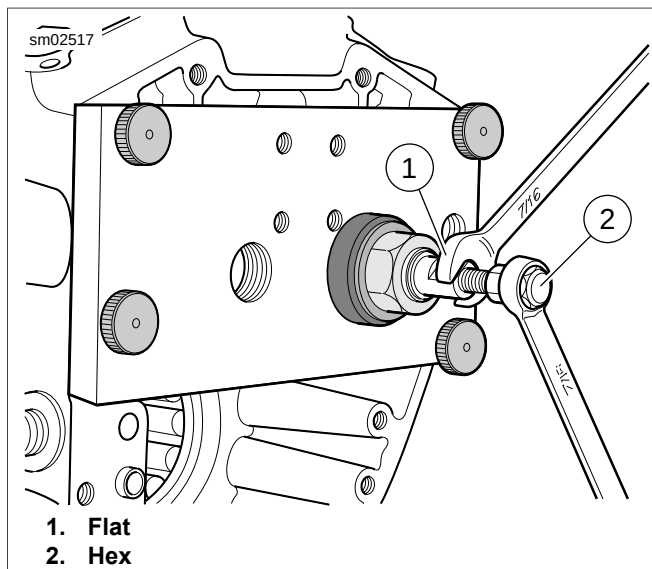

Figure 3-102. Expanding Collet by Turning Hex Clockwise
10. See Figure 3-102. Hold flat on collet to prevent rotation and expand collet by turning hex at end of shaft clockwise. Expandable end of collet makes contact with needle bearing ID.